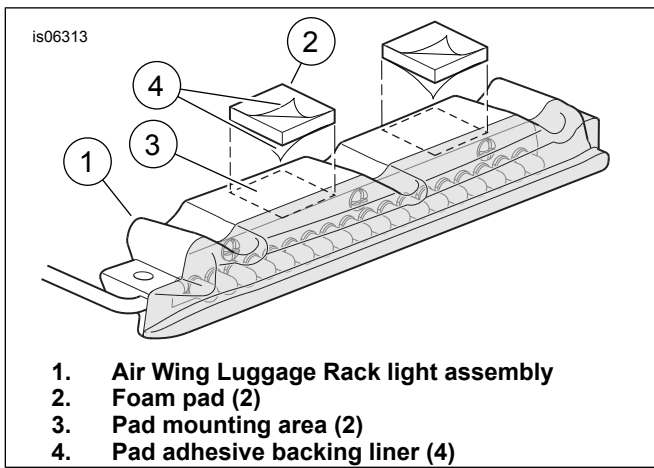

Figure 1. Attach Foam Pads to Light
*See Figure 1. Ambient temperature should be **at least 16 °C (60 °F)** for proper adhesion of the foam adhesive pads (2) to the rack and light.*
7. Clean the foam pad mounting areas (E) on the underside of the rack rear crossbar and (see Figure 1) on the light (3) with a mixture of 50-70% isopropyl alcohol and 30-50% distilled water. Allow to dry thoroughly.
8. See Figure 1. Remove the liner (4) from the adhesive backing on **one side** of a pad (2). Carefully position the pad to the top surface of the light (1), between the clearance notches, and press firmly into place. Repeat with the second pad.
9. Remove the remaining liner from both pads, and install the light to the rear cross bar with two socket head screws (3) and flat washers (4), drawing the wiring out the forward hole (C) as the light is set in place. Tighten the screws securely.